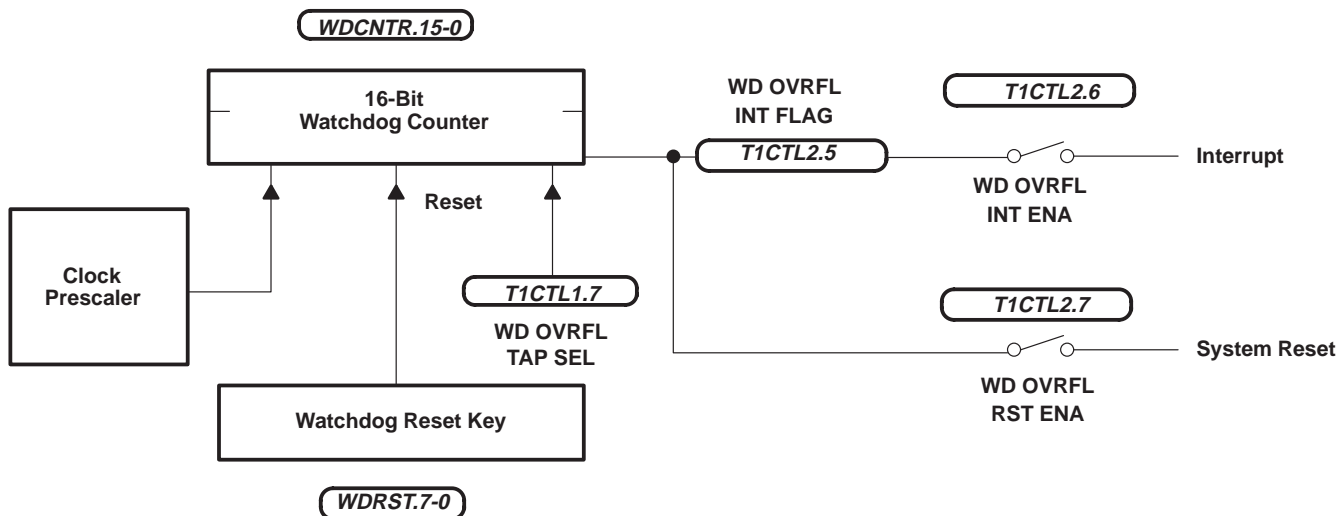

Figure 8. Standard Watchdog
- Standard watchdog configuration (see Figure 8) for 'C712A EPROM and mask-ROM devices: